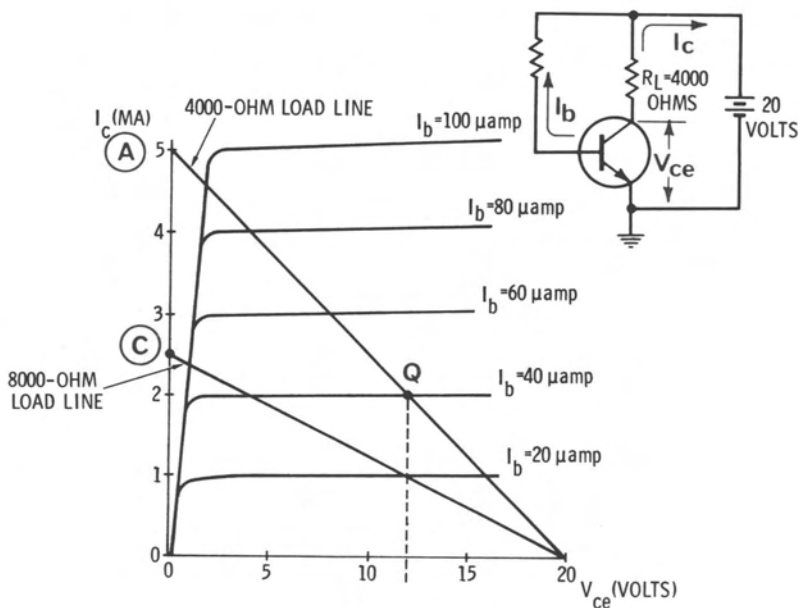

Fig. 3-23. Common-emitter output curves.
An important line, called the *load line*, is determined and drawn on the curves. Assume, from the amplifier specifications, that a load resistor, R_L , of 4000 ohms is required. A straight line, called the 4000-ohm line, is shown in Fig. 3-23 and it can be constructed on the family of curves in the following way. The example uses a 20-volt power supply.
- Q3-35. Assuming an R_L of 8000 ohms, determine from the curves in Fig. 3-23 the approximate value of V_{ce} for $I_b = 40 \mu$ amps.